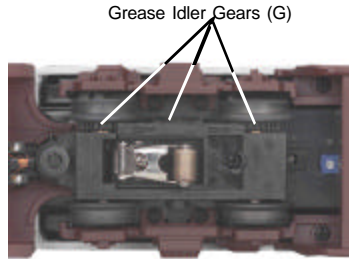

Figure 6 : Greasing the gears
1. To access the gear box, remove the cab from the chassis by unscrewing the chassis screws as seen in Figure 6 and lifting the cab from the chassis.
2. Once the cab is removed, remove the trucks by unscrewing the black Phillips motor mount screw located on the underside of the drive trucks (see Fig. 6).
Lubricate the outside truck block idler and drive gears with grease. Use the diagram shown in Figure 6 below as a guide and add grease to the points marked with a "G."